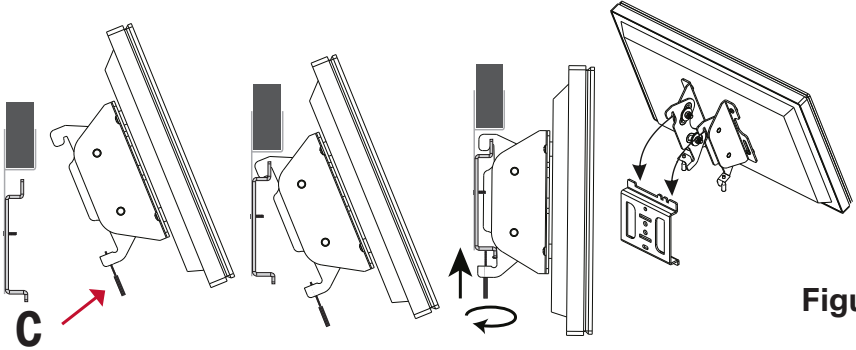

Figure 4
- a. Take the display and insert the top of the adjustable brackets onto the top of the wall mount base and pivot display down as shown in **Figure 4**.
- b. Insert and tighten the bracket screws (C) on the bottom of the bracket until the display is secure.